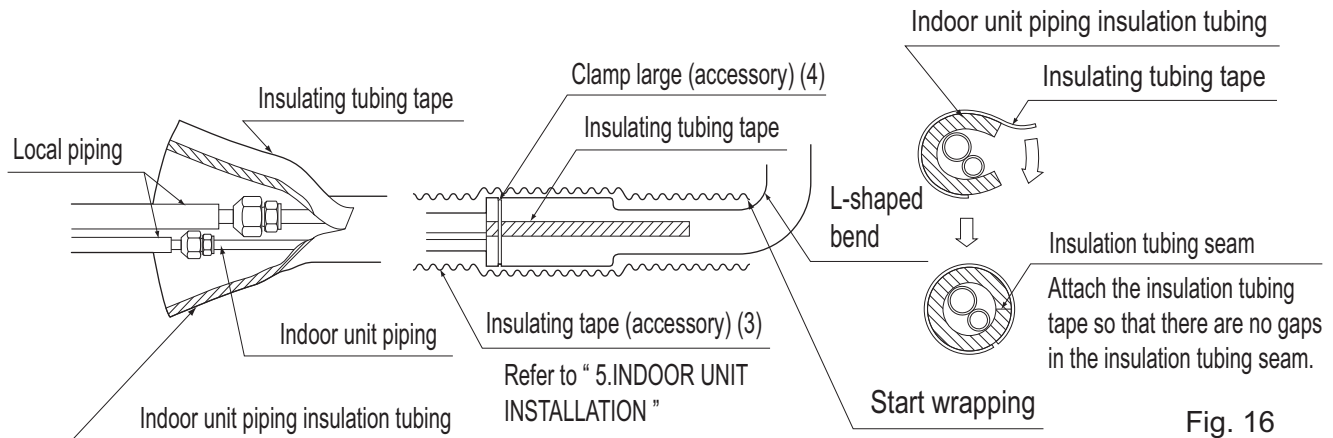

Fig. 16
- After leakage check of piping connection is finished, carry out thermal insulation with the supplementary piping insulation tubing and insulating tape (3). The insulating tape (3) should be wrapped from the L-shaped bend all the way to the end inside the unit. **(Refer to Fig. 16)**